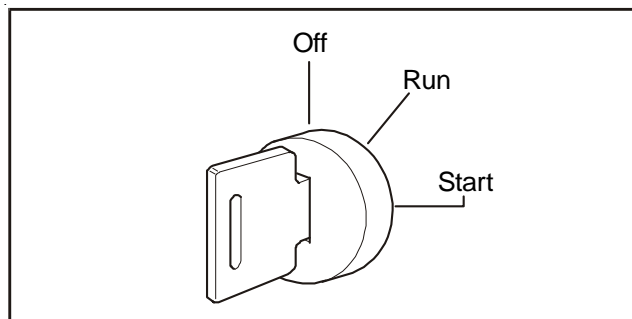

Figure 3-5. Ignition Switch
1. Place the gearshift in the neutral (N) position.
4. Turn the key to the "START" position. (See Figure 3-5)